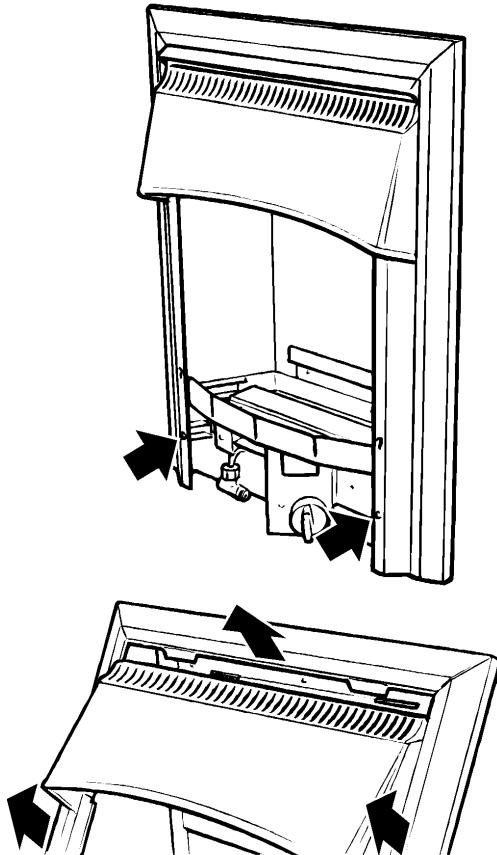

Fig. 4 Front surround removal
**6.1** Remove the two screws securing the bottom of the front surround to the sides of the convection box. Raise the front surround to allow the retaining lugs at the top to clear the slots in the convection box hood and then lift clear (see figure 4).